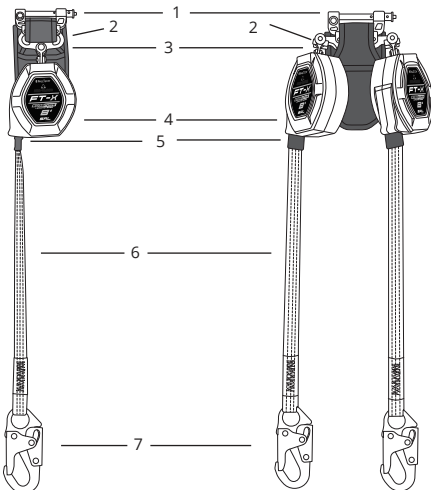

Figure 2 - About the FT-X EdgeCore Arc Flash Class 2 Leading Edge SRL-P
As shown in Figure 2 below, the FT-X EdgeCore Arc Flash has a nylon housing that contains a synthetic lifeline wound onto a spring tensioned drum. The FT-X EdgeCore Arc Flash lifeline is equipped with a lifeline stop and a leg-end connector. When the user is attached, the lifeline extends and retracts with the user movement, automatically maintaining taut lifeline. If a fall occurs, a centrifugal pawl system engages, stopping the lifeline payout. In a fall event, the SRL-FBH Connector will break away from the Shear Connector, and the integral Energy Absorber (EA) will deploy, gradually slowing and arresting the fall.